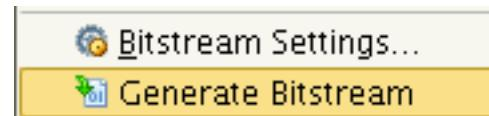
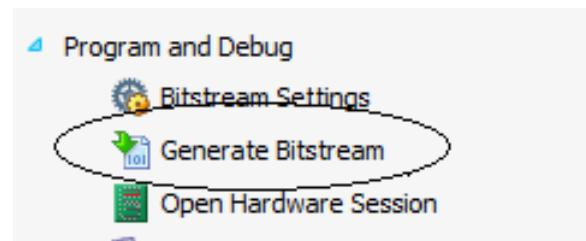

Figure 4: Generate Bitstream Option
Figure 5: Starting Bitstream Generation Using Icon
7. Select **Flow > Generate Bitstream**, (Figure 4) or, from the Flow Navigator, select **Program and Debug > Generate Bitstream** (Figure 5).